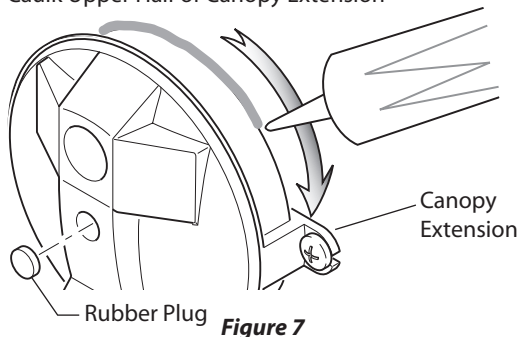

Figure 7
4. Push the rubber plug firmly into place (see Figure 7).
5. Caulk around top half of canopy extension with silicone weather sealant (see Figure 7).